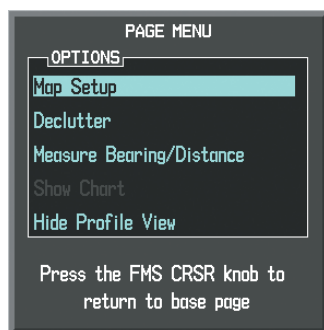

Figure 6-154 Navigation Map Page Menu
- 3) With 'Map Setup' highlighted, press the **ENT** Key (Figure 6-154).